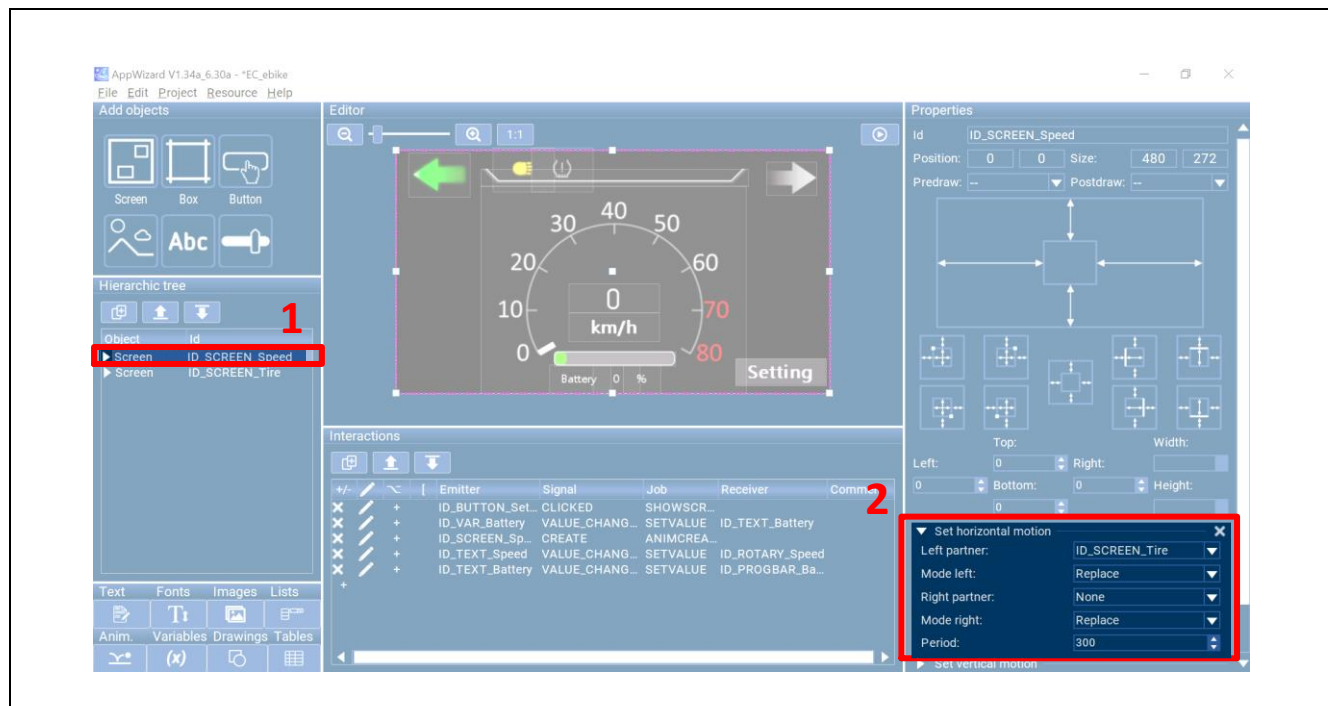

Figure 1-66 Screen - Properties
31. Set up page switching using sliding motion. First, click on the Screen ID of the screen you want to switch in the Hierarchic tree. Then, in the properties section, set the motion to either horizontal or vertical. Follow the steps shown in Figure 1-66 to complete the operation.